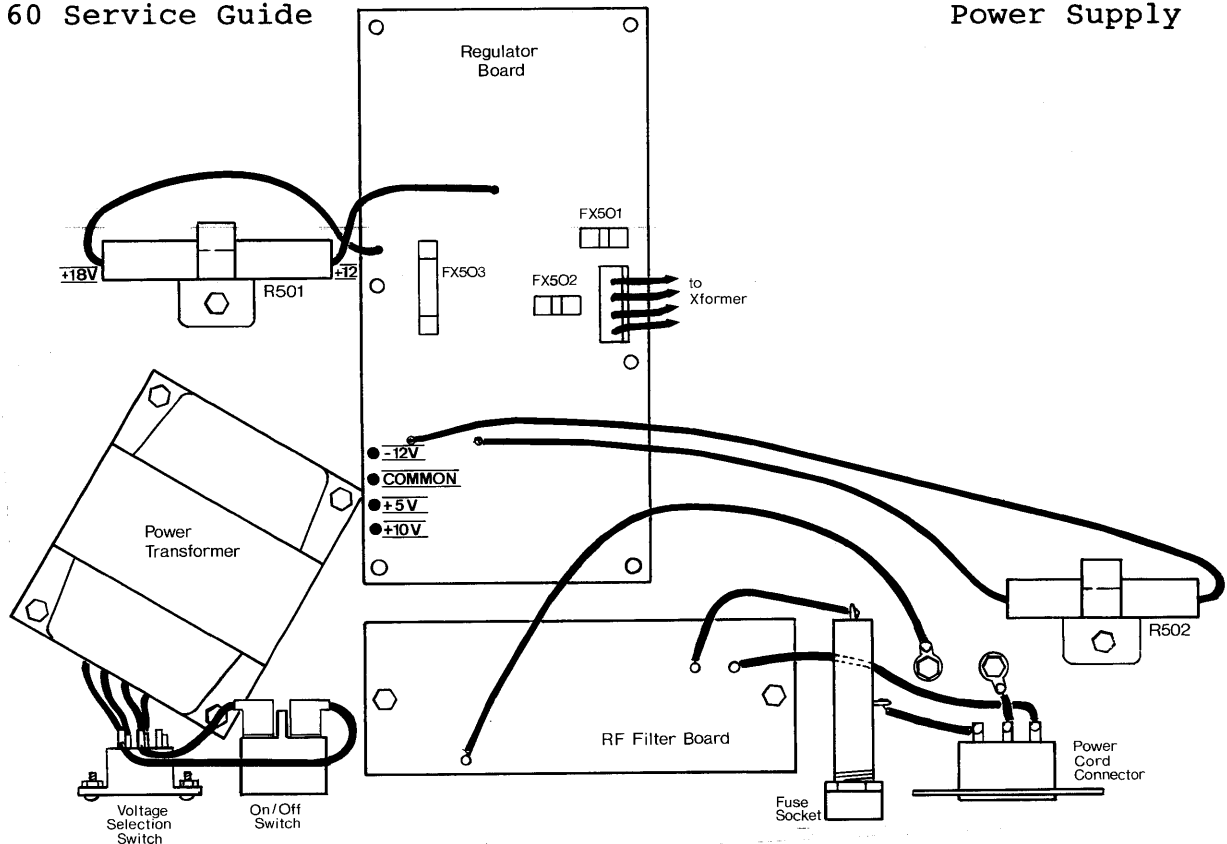

Figure 7-1: Power Supply Assemblies and Voltage Test Points
The power supply subassemblies are shown in Figure 7-1. The troubleshooting procedure should isolate the problem to one of these parts:
In addition to the main ac input fuse in the back panel, there are three additional fuses on the regulator board (See Figure 7-1). Each controls low voltage ac input to the rectifiers for one of the dc output voltages:
- o Measure the supply voltages by placing the positive (red) probe either at the test points indicated in Figure 7-1, or at the now disconnected P2 harness.